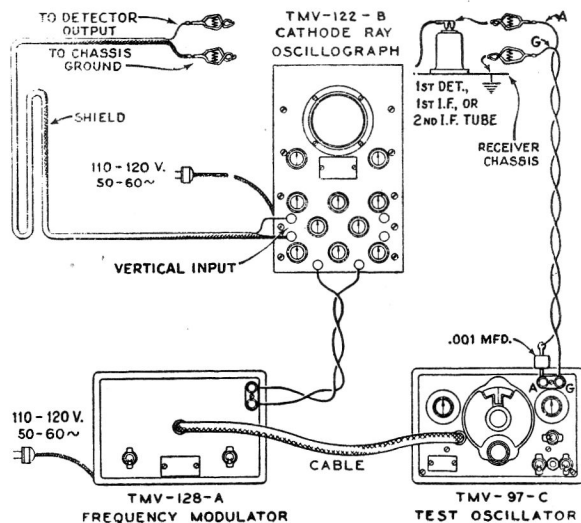
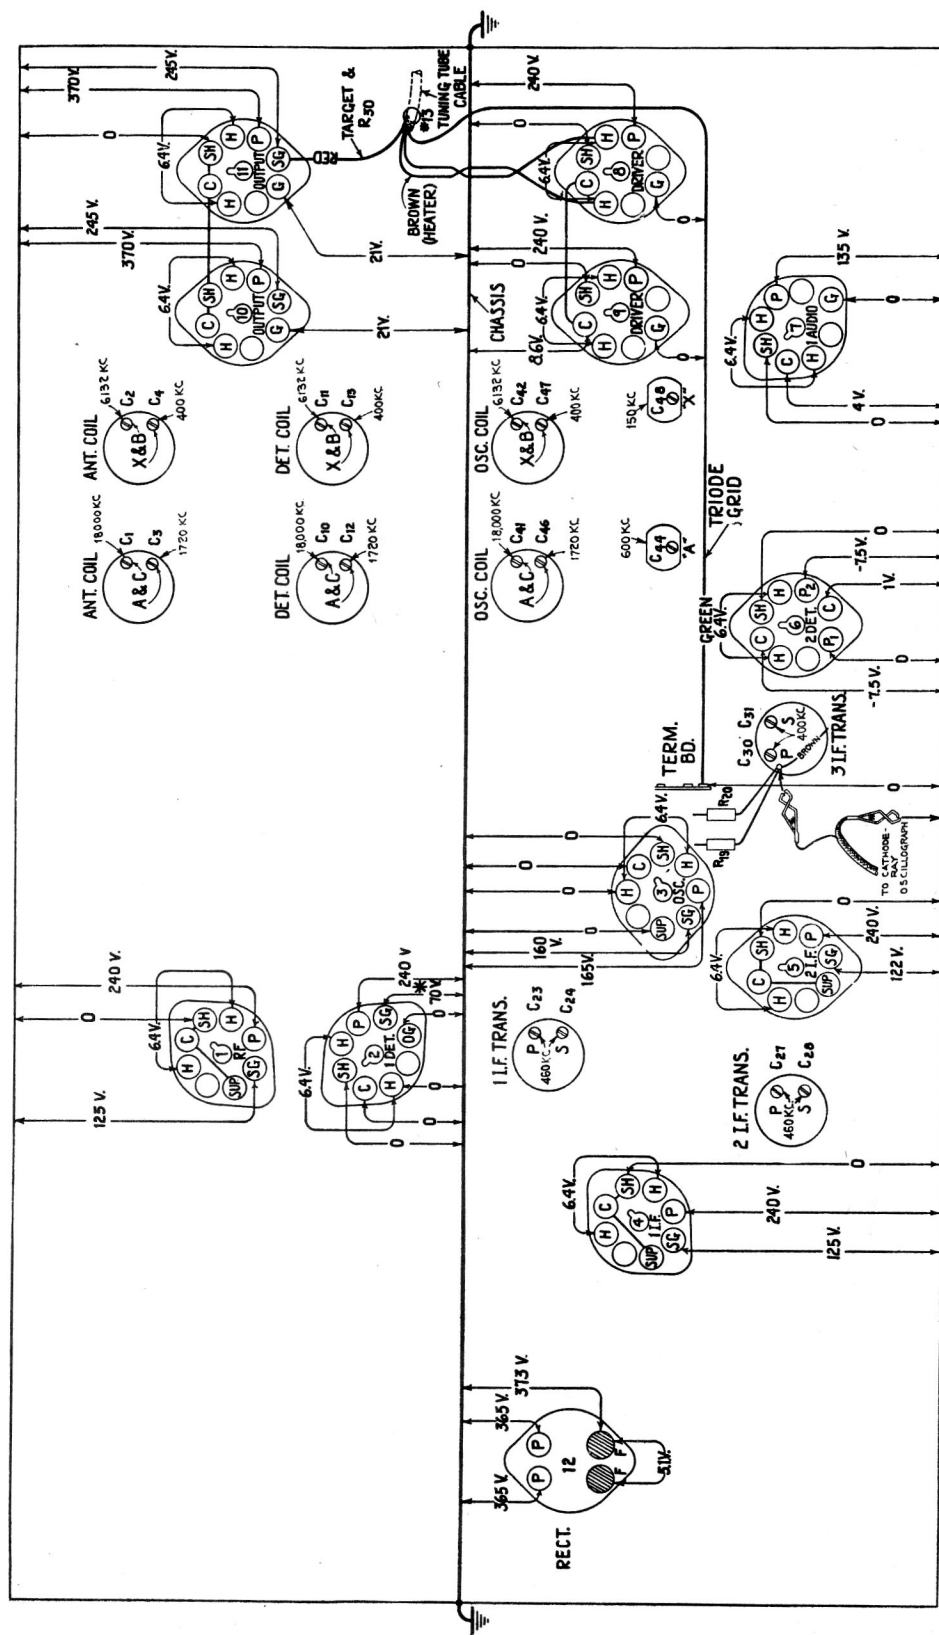

Figure 6—Alignment Apparatus Connections
Figure 7—Trimmer Locations and Radiotron Socket Voltages
Six trimmers are associated with the three i-f transformers. Their locations on the chassis are shown by Figure 7. Each must be aligned to a basic frequency of 460 kc. The last i-f transformer should be adjusted first, the one preceding it second and the operation carried through successive stages until the first transformer has been aligned. For such a process, it is necessary to feed the output of the Full Range Oscillator to the stages in their order of alignment, adjusting the trimmers of each and observing the effect at the second detector output on the Cathode-Ray Oscilloscope. The most convenient point for connection of the Oscilloscope is at the detector diode load circuit, with the vertical "Hi" terminal attached to the juncture of R-17, R-18 and R-19, and the "Gnd" to the chassis. The "Ext. Sync." terminals of the Oscilloscope should be connected to the Frequency Modulator as illustrated in Figure 6. A .001 mfd. capacitor installed in series with the Oscillator "Ant." output lead will prevent the voltage constants of the stage being aligned from becoming upset. Proceed further as follows:—
- (c) The Frequency Modulator should then be placed in operation and interconnected with the Full Range Oscillator by means of the shielded patch cord provided. Figure 6 shows the proper arrangement. Set the Frequency Modulator sweep range switch to its "Lo" position and turn the Oscillator modulation switch to "Off". Change the timing (Sync.) control of the Oscilloscope to "Ext." and place the range switch to its No. 2 position. Then shift the tuning of the Oscillator so as to increase its frequency, until two distinct and similar waves appear on the Oscilloscope screen and become coincident at their highest points. These curves will be found to occur at an Oscillator setting of approximately 540 kc. They will be identical in shape but appearing in reversed positions. Adjust the frequency control of the Oscilloscope in order to cause the waves to conform with these requirements and to make them remain motionless on the screen. This will require a setting of approximately  $\frac{1}{2}$  clockwise rotation of the frequency control. The trimmers C-30 and C-31 should then be re-adjusted so that the two curves move together and become exactly coincident throughout their lengths, maintaining the maximum amplitude at which this condition can be brought about.
ing manufacture, hence no alignment will be necessary in this range. Locations of the various antenna, detector and oscillator trimmers are shown on Figure 7. The test Oscillator should be removed from connection with the i-f system and its output attached to the antenna-ground terminals of the receiver. No changes are to be made in the attachment of the Oscillograph at the second detector. During the adjustments, the Oscillator output should be regulated as often as is necessary to keep the oscillographic image as low as is practically observable. Such procedure will obviate apparent broadness of tuning which would result from a.v.c. action on a stronger signal. The sequence of alignment should be Band A, Band X, Band B and Band C. Proceed with the adjustments as follows:—
- (a) With the receiver range switch on its Band A position, tune the station selector until the dial pointer is at a reading of **1720 kc.** Adjust the Oscillator to **1720 kc.** (modulation "On" and Frequency Modulator disconnected) and increase its output to produce a registration on the Oscillograph. Carefully align the oscillator, detector and antenna trimmers, C-46, C-12 and C-3 respectively, so that each brings about maximum amplitude of output as shown by the wave on the Oscillograph. It will be necessary to have the timing control of the Oscillograph on "Int." for this operation. Then shift the timing control to "Ext." and place the Frequency Modulator into operation with its connections to the Oscillator and Oscillograph as shown on Figure 6. Retune the test Oscillator (increase frequency) until the forward and reverse waves show on the Oscillograph and become coincident at their highest points. Adjust the trimmers C-46, C-12 and C-3 again, setting each to the point which produces the best coincidence and maximum amplitude of the images.
The voltage values indicated from the Radiotron socket contacts to ground on Figure 7 will serve to assist in locating causes for faulty operation when existent. Each value as specified should hold within  $\pm 20\%$  when the receiver is normally operative at the rated supply voltage. Variations in excess of this limit will usually be indicative of trouble in the basic circuits. The voltages given on the diagram are actual operating values and do not allow for inaccuracies which may be caused by the loading effect of a voltmeter's internal resistance. This resistance should be duly considered for all readings. The amount of circuit resistance shunting the meter during measurement will determine the accuracy to be obtained, the error increasing as the meter resistance is comparable to or less than the circuit resistance. For the majority of readings, a meter having an internal resistance of 1000 ohms per volt will be satisfactory when the range used for each check is chosen as high as possible consistent with good readability.